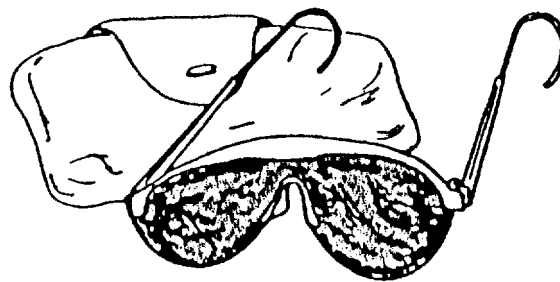

Figure 2-35. Sunglasses
- m. Sunglasses. The sunglasses (See Figure 2-35) are used to protect against extreme sun glare which could cause temporary blindness. (i.e., snow blindness).